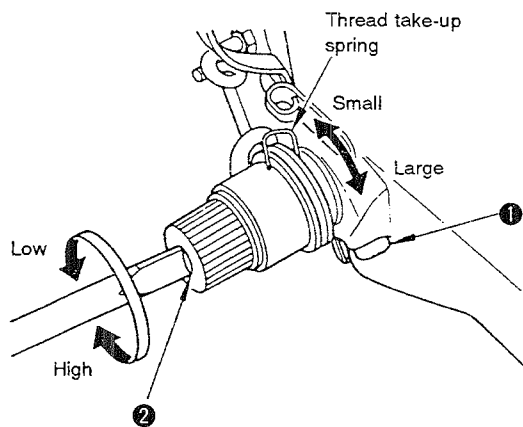
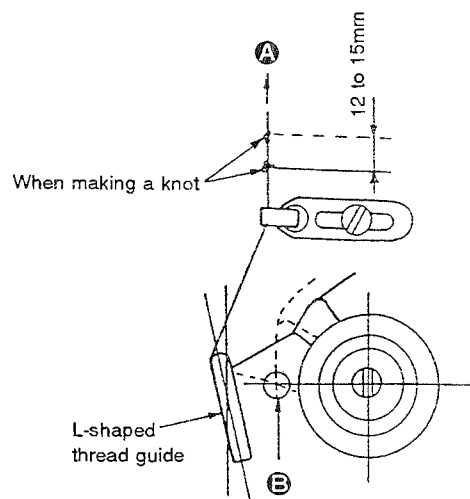

Fig. 5-11-1
Fig. 5-11-2
(11) Thread take-up spring
Stroke: Pull the needle thread in direction (A). Moving distance of the needle thread should be 12 to 15 mm from the start to the end position. (Fig. 5-11-2)
<ol style="list-style-type: none"> 1) Adjusting the stroke Loosen setscrew 1, insert a screwdriver into tension controller No. 2 2, and turn it to adjust the stroke. 2) Adjusting the tension Be sure that setscrew 1 has been securely tightened. Insert a screwdriver into tension controller No. 2 2, and turn it to adjust the tension. (Fig. 5-11-1) <p>[Caution] When sewing with a thinner thread such as #50 or a greater count, adjust the stroke of the thread take-up spring so that it is 8 to 10 mm.</p>	<ul style="list-style-type: none"> ○ If the stroke exceeds the specified range: The thread remaining on the needle will be too short, resulting in the thread slipping off the needle at the sewing start. ○ If the stroke is inadequate: Needle breakage may occur at the sewing start when sewing with a thin thread. <p>[Caution] If the thread take-up spring comes in contact with the L-shaped thread guide, the thread take-up spring will not return to the start position before thread trimming, and the thread remaining on the needle will be short. In this case, adjust the position of the L-shaped thread guide so that the thread take-up spring does not come in contact with the L-shaped thread guide at section B. At this time, take care not to damage the thread path. (Fig. 5-11-2)</p>